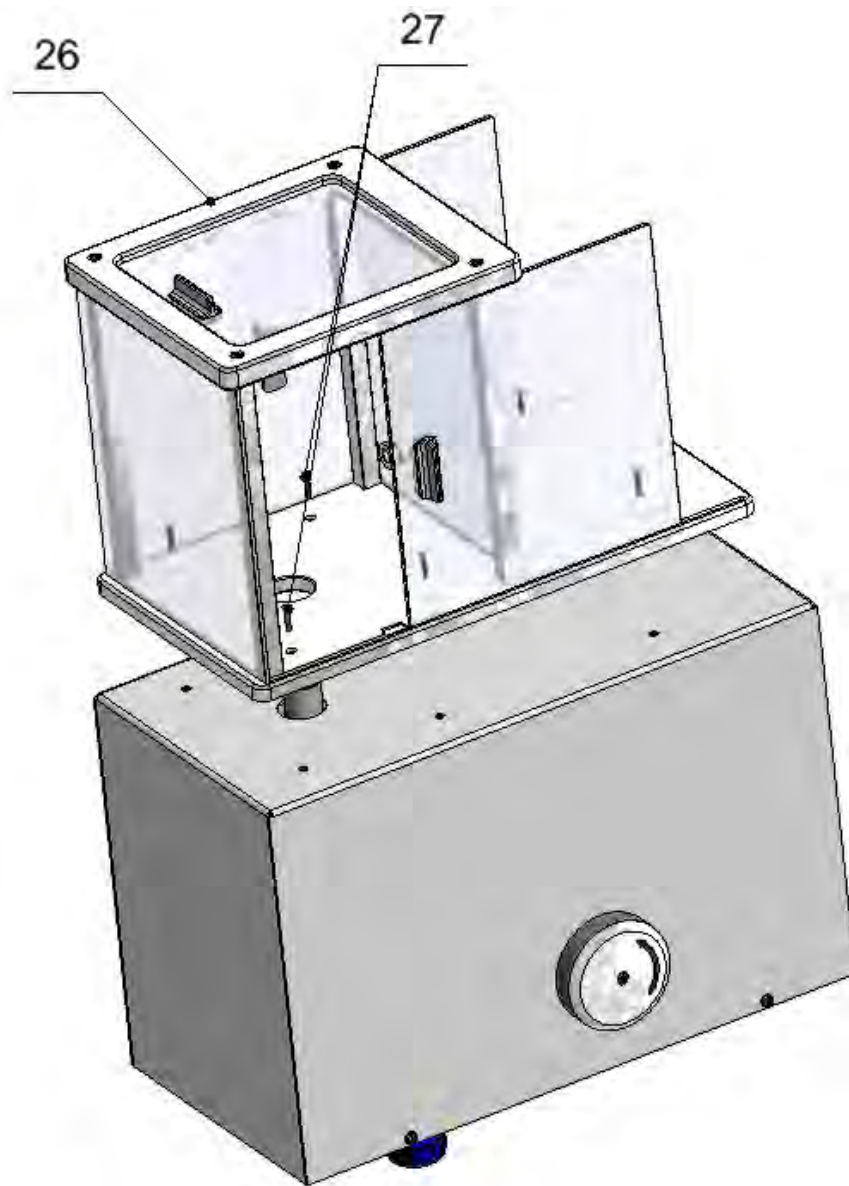
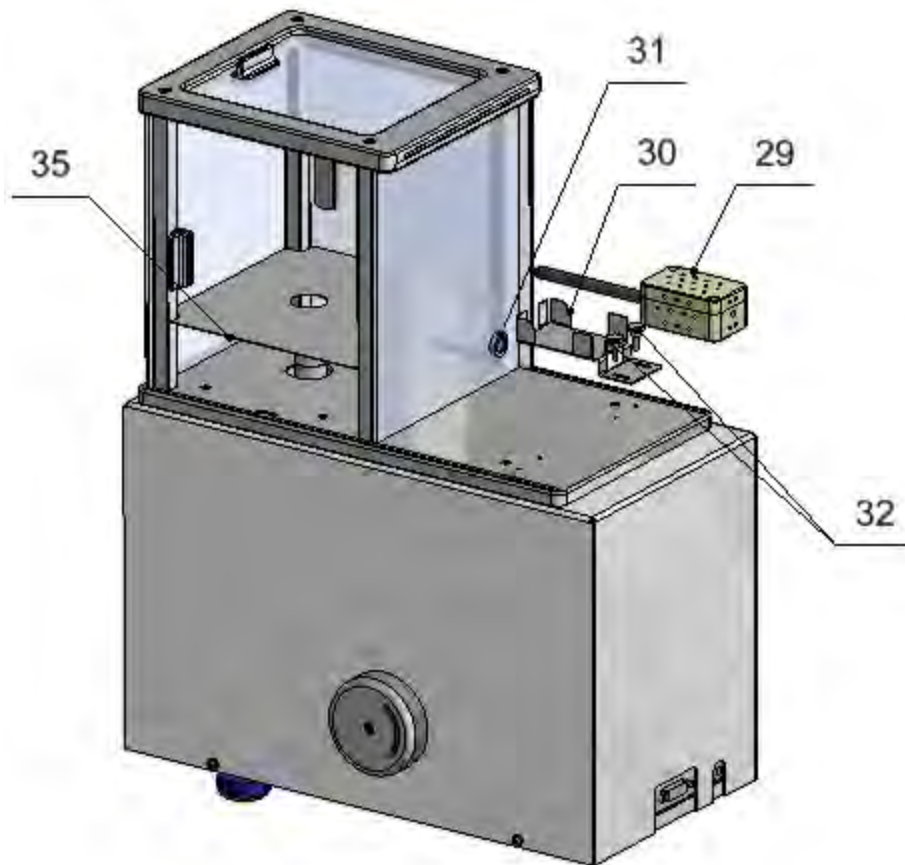

Fig. 7
Fig. 9
25. Using six M3x16 countersank screws (27) install a draft shield (26), (Fig. 7), next place metal insert for masking (35) inside the draft shield. (Fig. 9)
26. Alternatively install humidity sensor (29). (Fig. 9, 10)
26.1. Alternatively, insert THB sensor (29) into THB sensor holder (30) next through a sleeve (31) place the sensor inside a draft shield and fix the sensor holder using two M3 thumb screws (32). (Fig. 9)